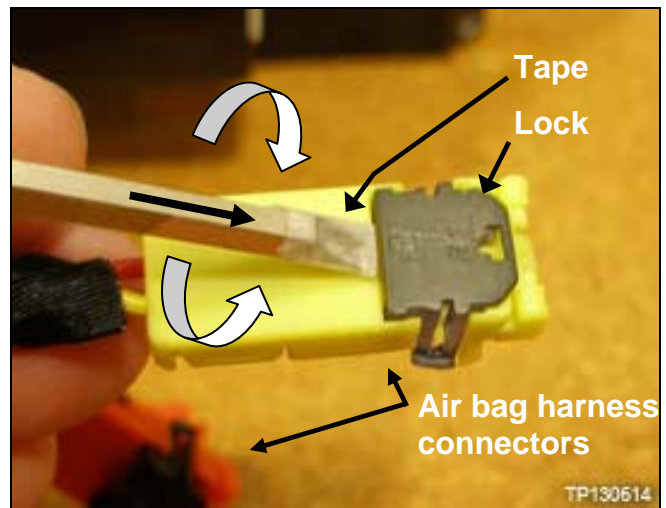

Figure 13
- To unlock the lock, tape the end of a “pocket” screwdriver or suitable tool, insert it in the notch, and then twist (see Figure 13).